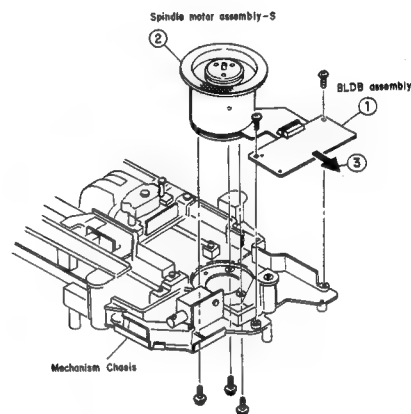

Fig. 7-14
7.10 HOW TO REMOVE THE SPINDLE MOTOR ASSEMBLY-S AND BLDB ASSEMBLY (Fig. 7-14)
- ① After removing the mechanism assembly, remove the two screws (A) holding the BLDB assembly and the screw (B) holding the spindle motor assembly-S. Now remove the BLDB assembly and spindle motor assembly-S from the mechanism chassis.
- ② Take out the BLDB assembly from the Spindle motor assembly-S.